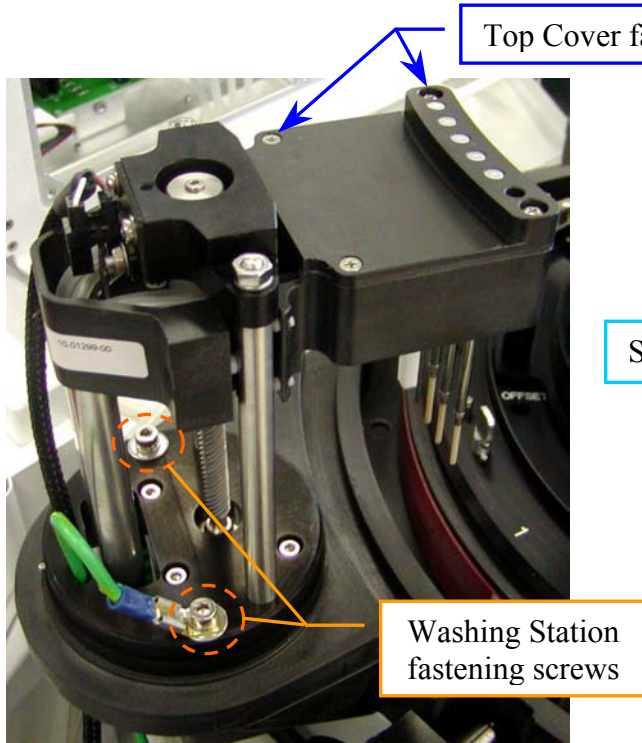

Fig. 71 - Washing Station Assembly
2. Remove the top cover of the Washing Station unscrewing the four fastening screws (**Fig. 71**).
4. Unscrew the two Washing Station fastening screws (**Fig. 71**) and pull out the Washing Station from its housing.
2. Unscrew the two Washing Station fastening screws (**Fig. 71**) and pull out the Washing station from its housing.
- a. loosen the two Washing Station fastening screws (**Fig. 71**);
- c. tighten the two Washing Station fastening screws (**Fig. 71**);